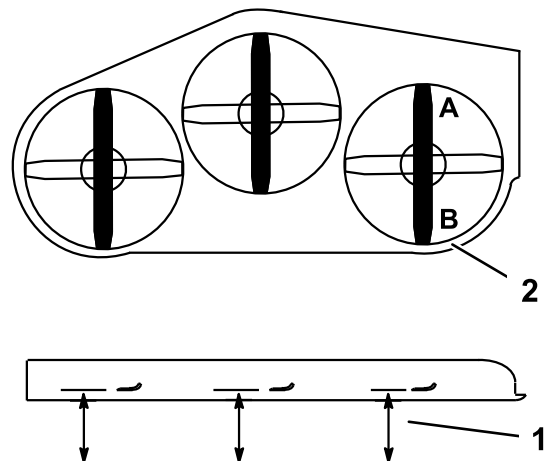

**Figure 92**
1. Loosen the side nut and jam nut in the yokes you want to adjust (Figure 92).
2. Rotate the top bolt of the yokes to adjust the height of the mower deck (Figure 92).